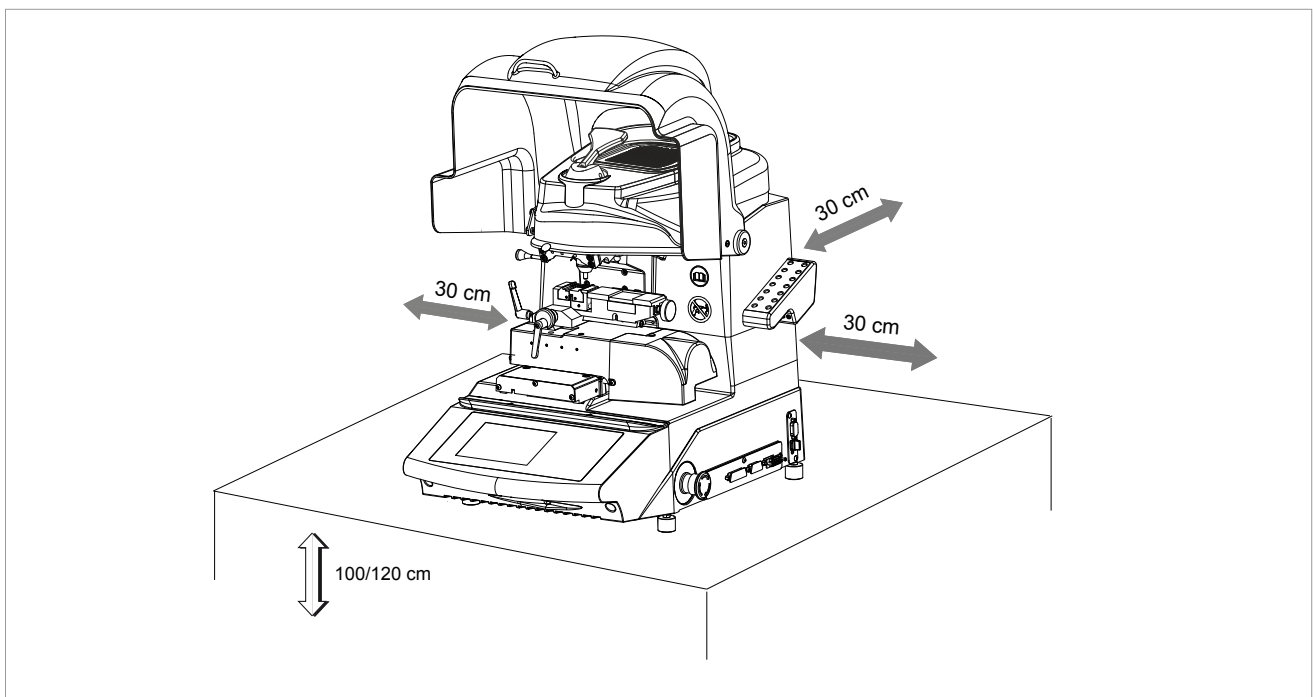

Fig. 10
- 1) Place the key-cutting machine on a horizontal work bench solid enough to take its weight (51.5 Kg) and big enough to allow comfortable access to the working parts. The work bench should be at the same height as the operator's hips. We recommend leaving a clearance of at least 30 cm at the back and sides of the machine to ensure good ventilation (Fig. 10).